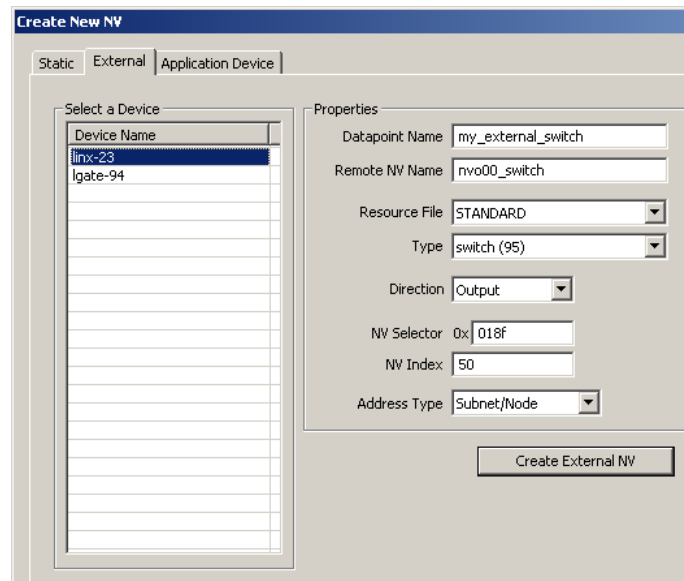

Figure 124: Create a new external NV.
3. Click on the tab **External** as shown in Figure 124.